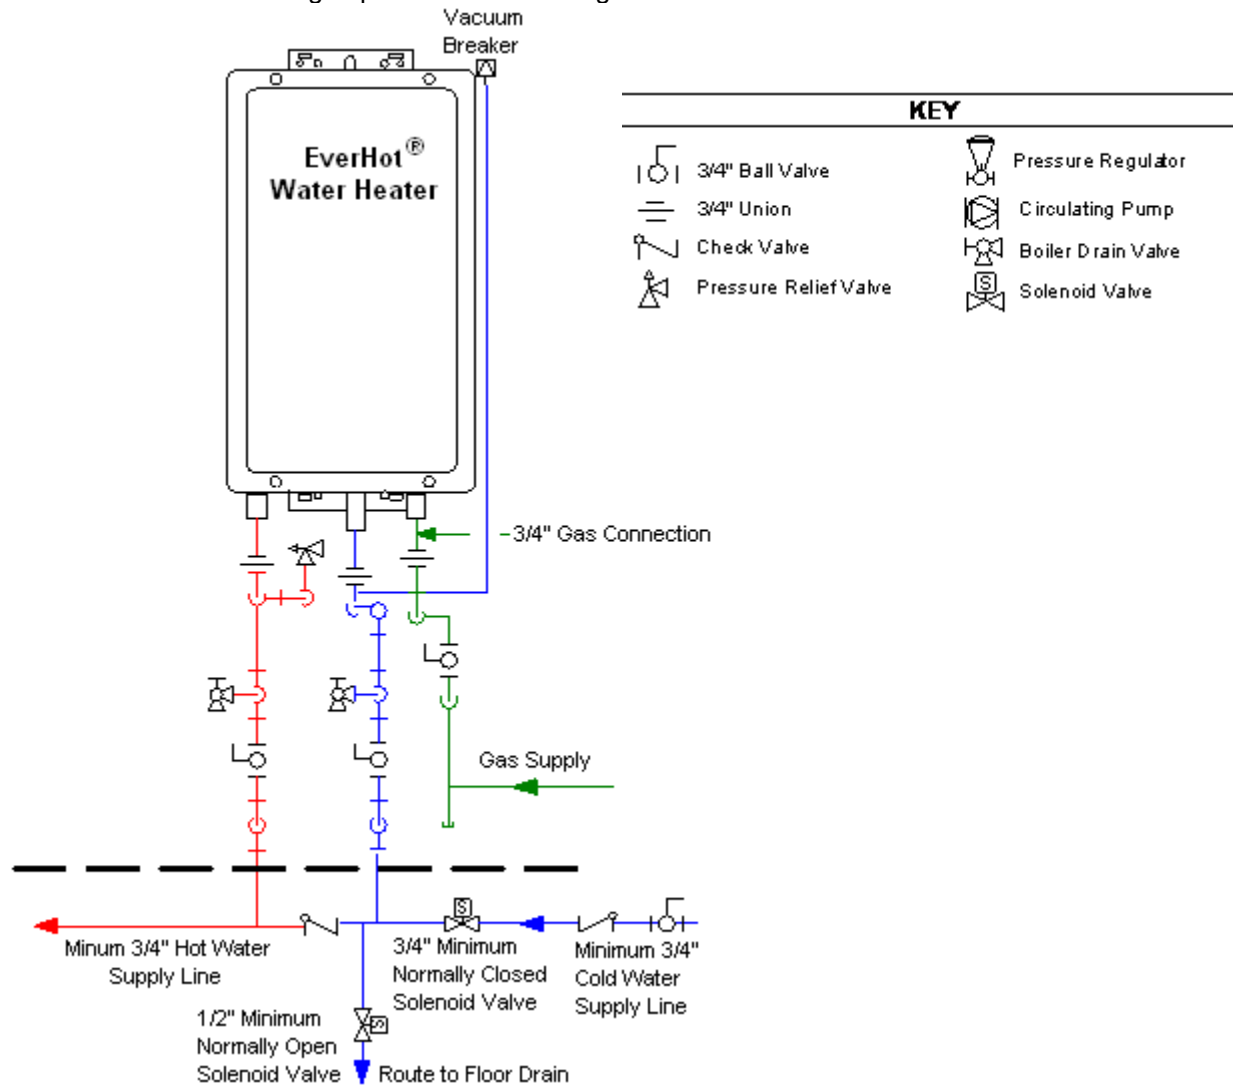

Figure 6. Recommended Piping for Freeze Protection.
4. In cold climates, where piping can freeze during an extended power failure, drain solenoid valves should be installed on the cold and hot water supply lines to allow water to drain from the water heater when power is interrupted. Refer to the piping diagram (Figure 6) "Recommended Piping for Power Failure Freeze Protection" in Section IV, and contact your Bradford White dealer if assistance is needed.
9. Commercial installations may require more than one water heater piped together in a manifold to supply enough capacity for high temperature and high water flow applications. Special controls are available from your Bradford White supplier for operating more than one water heater together. These controls stage the operation of the water heaters for the flow rates and control the amount of flow through each water heater. Order p/n MSA-2M for the electronic manifold control for the first and second water heater and p/n MSA-2S for the wiring harness for each additional water heater to be controlled. A maximum of (5) water heaters can be connected together. Alternatively, to connect only (2) water heaters, an EZConnect™ harness, p/n REU-EZC-1US, can be used. Instructions are included with these parts.
Heat trace all water pipe and fittings located outside the home (attic, crawl space) or building structure. All pipe and fittings shown below dashed line (see Figure 6) should be located inside home or building structure. The vacuum breaker line should be located inside the building structure.